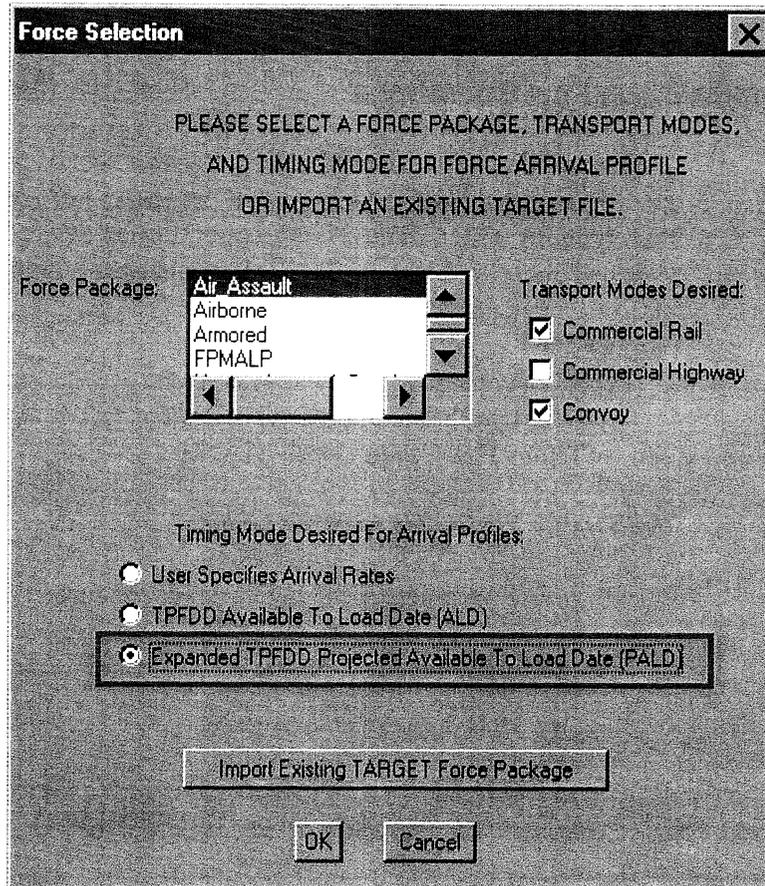

Figure 11: Stochastic Cargo Arrival — Option 3
1. When creating a new scenario or modifying an existing scenario, make the following series of choices on the PORTSIM menus and windows (Figure 11):